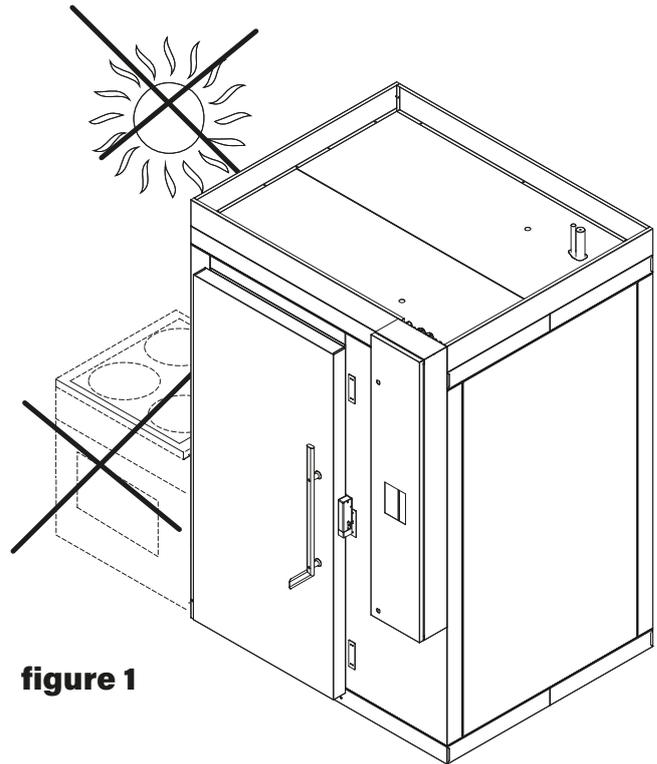

figure 1
- Do not position the blast chiller in a position directly exposed sunlight and other forms of radiation such as cooking ovens, etc. (Figure 1).